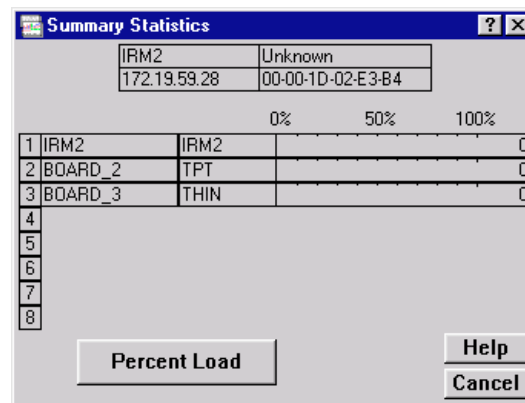

Figure 3-4. Device-level Summary Statistics Window
2. Drag down to **Summary Statistics...** and release. The Repeater Summary Statistics window, Figure 3-4, will appear.